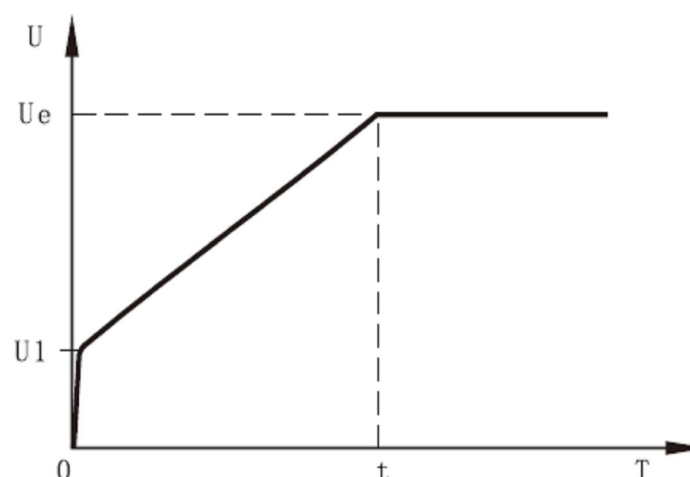

Figure 12-2-1
- a) The soft starter will be under voltage starting mode when code F9 is set to 1 (voltage). Figure 12-2-1 shows the output voltage wave of the output ramp starting. U_1 is the starting voltage value at start, when the motor starts, if the current of the motor is within the range of the rated value 400%, the output voltage of the soft starter will increase to U_1 rapidly, then the starting parameter set according to the output voltage will rise gradually, and the motor will accelerate smoothly with the rising of the voltage and reach the rated rotation speed when the voltage reaches the rated voltage U_e , then the inbuilt bypass contactor will close and the whole starting process completes.